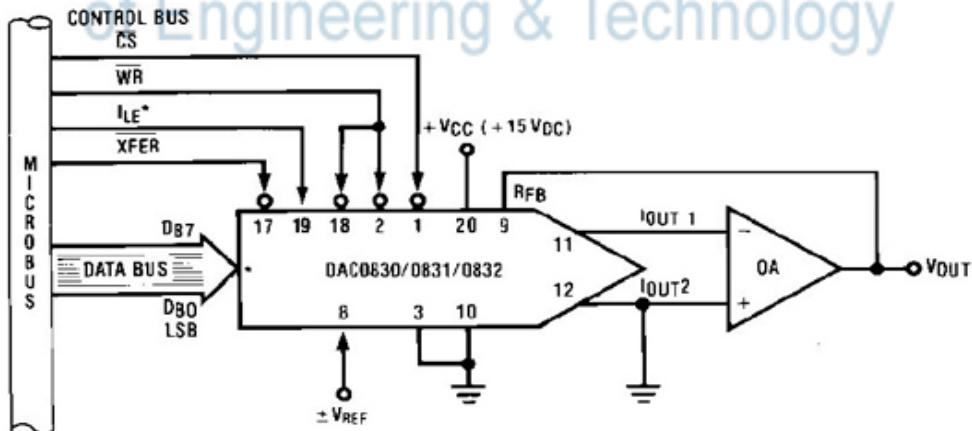

Fig. 23.3 Circuit Diagram of the IC DAC0832
Now for understanding the working let us consider the example application circuit given in figure 23.3.
- For working of device DAC0832 we have connected a voltage source of 15V as shown in figure 23.3.